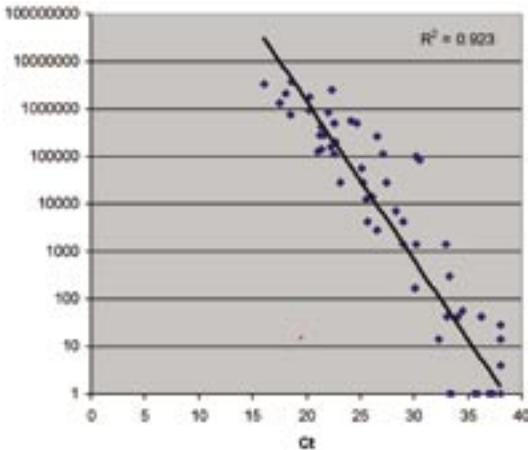

Figure 2. Correlation between the average Ct value of the DNA Test result and the log of the cfu/g (n=77).
In addition, a subset of seventy-seven (77) samples from the above study was cultured by serial dilution to obtain highly accurate estimates of bacterial counts, resulting in values between 0 and 3.6 million cfu/gram. Plotting the Ct value of the DNA Test against the log of the cfu/gram gave a correlation of  $R^2 = 0.923$  (Figure 2).